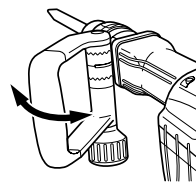
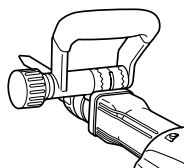
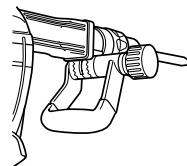

Fig. 6
Fig. 7
Fig. 8
- (2) Adjust it to a position where vertical (up-and-down) operation can be facilitated as illustrated in Fig. 6, Fig. 7, and Fig. 8.
- (3) Turn the grip in the direction of **B** and fix the handle.